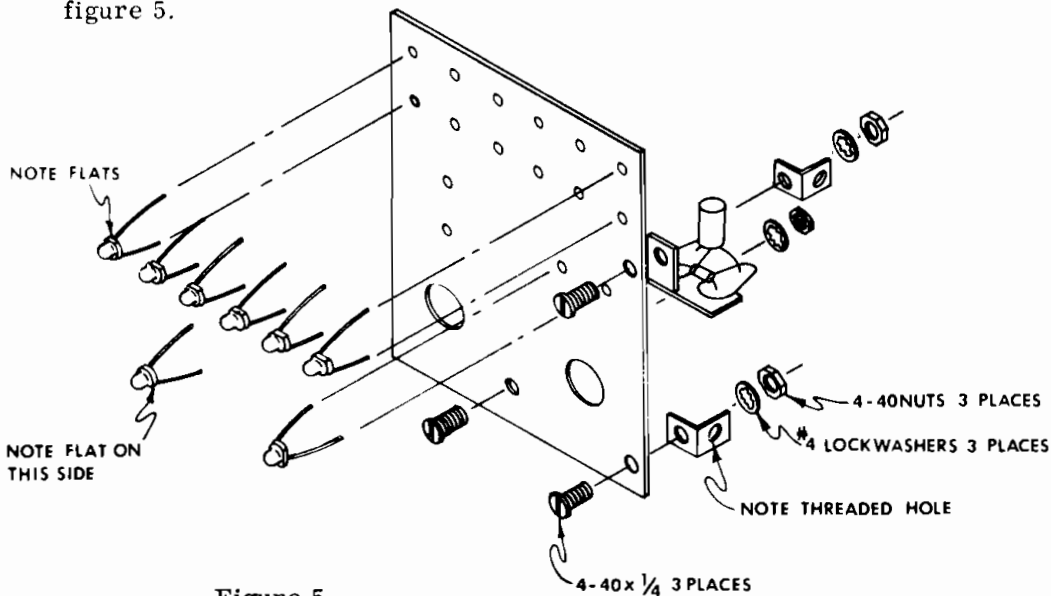
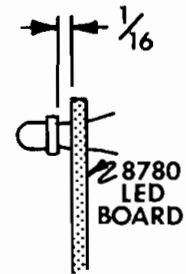

Figure 5 - 8780 LED Circuit Board Construction Detail
Figure 6
- ( ) Using one 4-40 X 1/4" machine screw, one 4-40 nut and one #4 internal lock washer, attach the terminal strip to the 8780 LED circuit board as shown in figure 5.
- ( ) Using two 4-40 X 1/4" machine screws, two 4-40 nuts, and two #4 internal lock washers attach the two "L" brackets as shown in figure 5.
- ( ) Install the eight light emitting diodes (LED's), D1 through D8, as illustrated in figure 5. Note that these parts are polarized and must be installed correctly in order to operate properly. These parts should be installed so that the cathode side, as identified by a flat on one side of the case, goes in the hole marked "-" on the conductor side of the circuit board. Do not attempt to push the LED's all the way against the circuit board. Doing so will crack the epoxy case of the LED rendering it inoperable. Leave a gap of approximately 1/16" between the base of the LED's and the 8780 LED circuit board as shown in figure 6. **DO NOT SOLDER AT THIS TIME.**